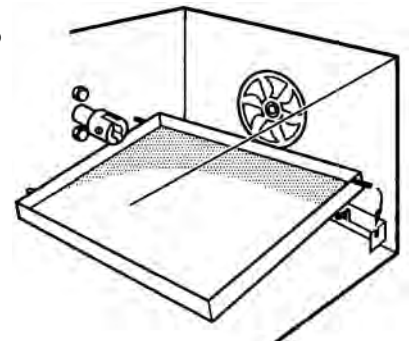

Figure 3. Insert Tray Peg into Slot
2. Fit the rear right hand peg of tray into vertical slot at right of bracket, allowing tray to temporarily rest on oven base. Refer to Figure 3.